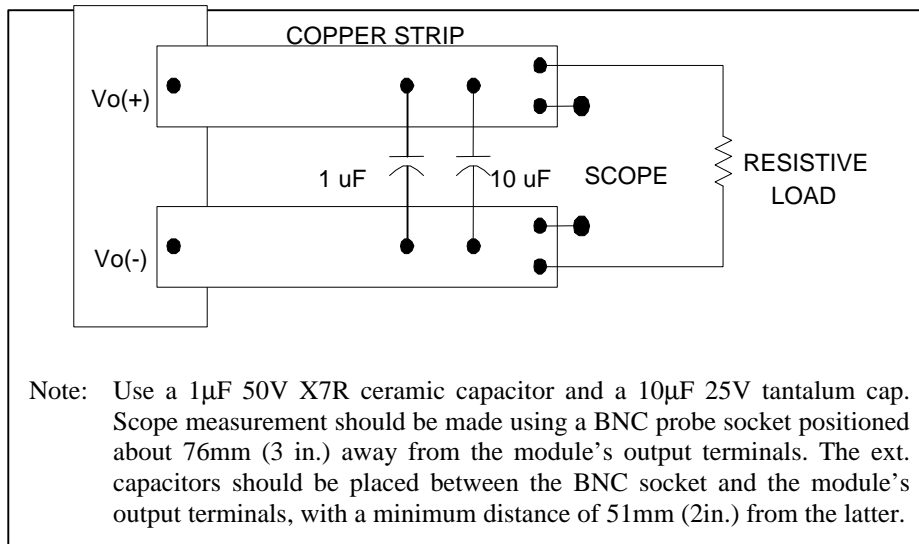

Figure 2. Peak to Peak Output Noise Measurement Setup.
3. $V_{IN} = 48Vdc$; $I_O = I_{O,max}$; the other channel at min load. See Figure 2 for Ripple test measurement setup.